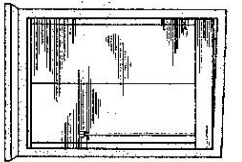
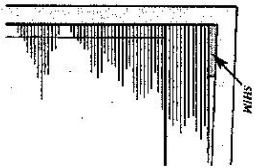

FIG. 3
FIG. 4
■ If shade is for inside window installation, and if the window frame is **not** even or level (Fig. 3), use shims to make sure that the headrail **will** be level when installed. (See Fig. 4)